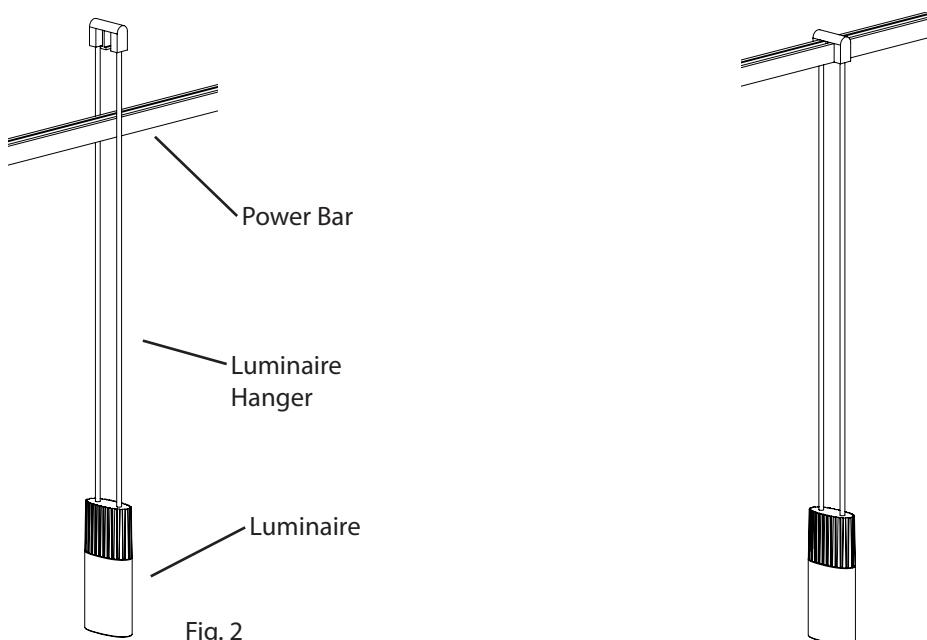

Fig. 3
1. Align **Hanger** with **Power Bars** (Fig. 2) and press down firmly on the top (or bottom) of the Power Bar, while pressing up (or down) on the bottom of the Hanger, until the Power Bar clicks into place (Fig. 3).
2. Press down firmly on the top of the **Luminaire Hanger**, while pressing up on the bottom of the **Power Bar**, until the Luminaire Hanger clicks into place (Fig 3).
3. To remove, tip the **Parallel Luminaire Hanger** in the direction of the **Power Bar** to release the **Snap Hooks**, then pull the Parallel Luminaire Hanger off the Power Bar (Fig. 3).